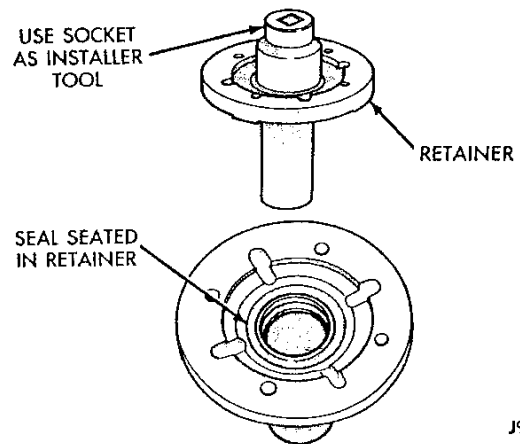

Fig. 61 Input Shaft Seal Installation
(1) Install new seal in front bearing retainer (Fig. 61). Use socket or pipe tool to seat seal in retainer. **Be sure seal lip faces inward toward case interior.**
(2) Install new front bearing on input shaft if necessary. Use shop press to install bearing.